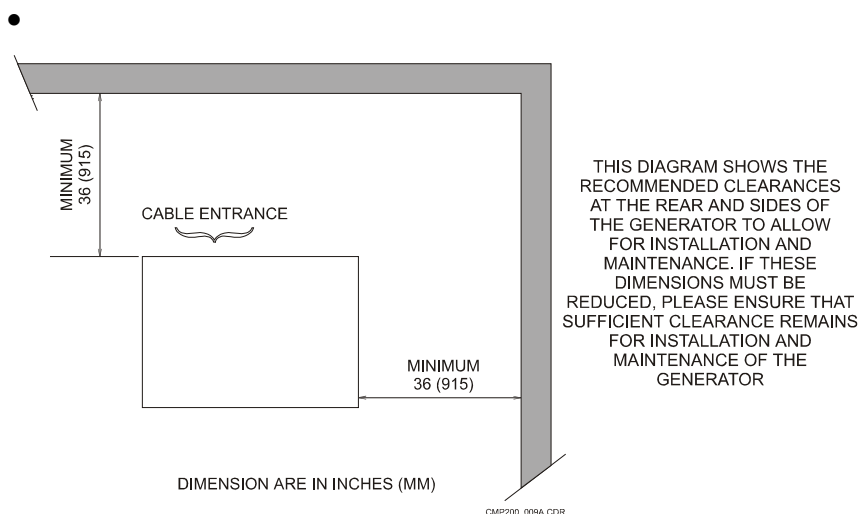

Figure 1-1: Generator clearances
- Sufficient room must be provided to allow access to the rear and side of the generator for installation and service. See Figure 1-1 for recommended clearances.